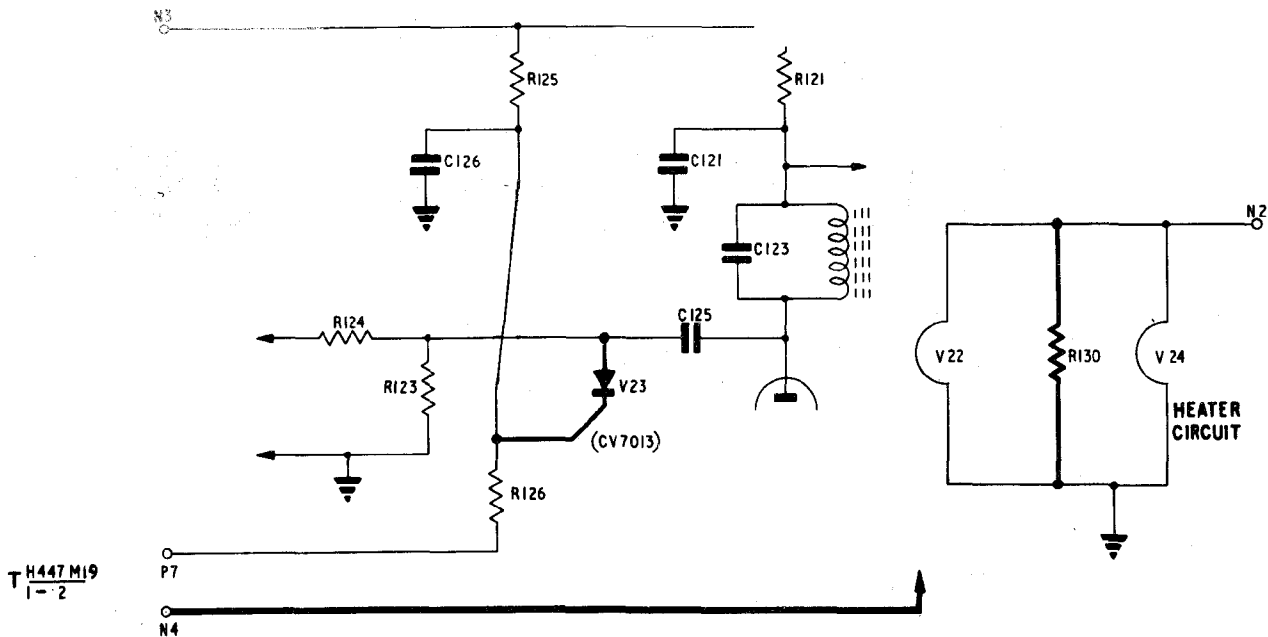

Fig 2 - Scrap circuit diagram, showing modification
j. Strike through with a diagonal line the figure 2 on the modification record plate of the squelch unit (5820-99-949-0587).
The circuit alterations effected by carrying out the action detailed in para 7, are as shown at Fig 2. The following amendments to EMERs will therefore be necessary, and these will be published in due course:-